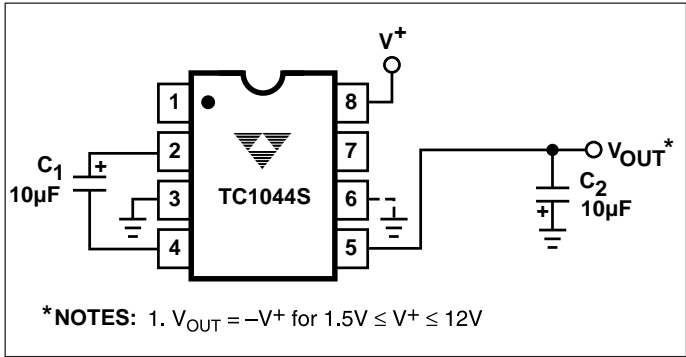
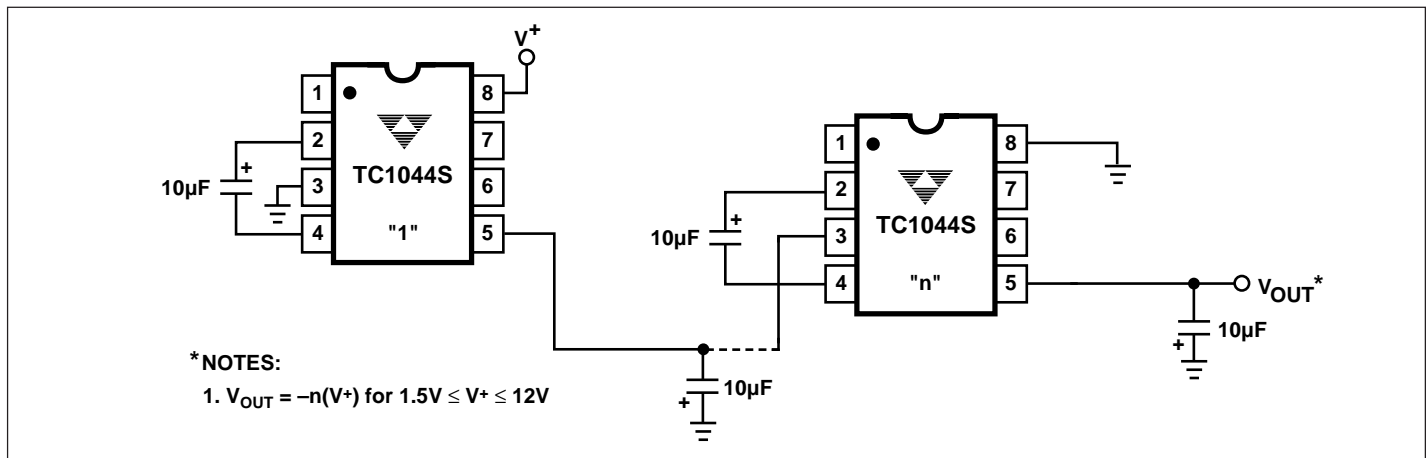
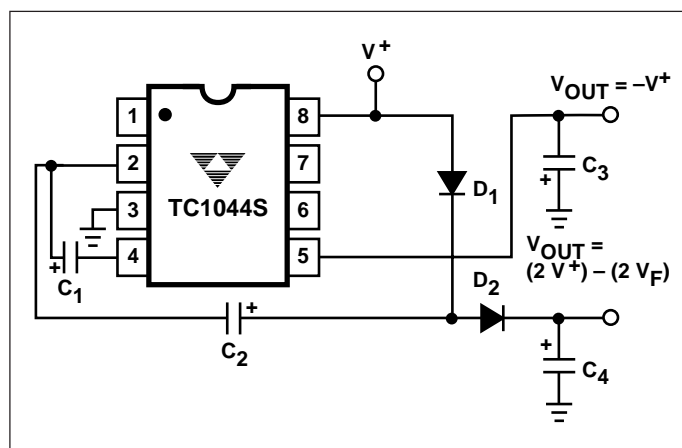
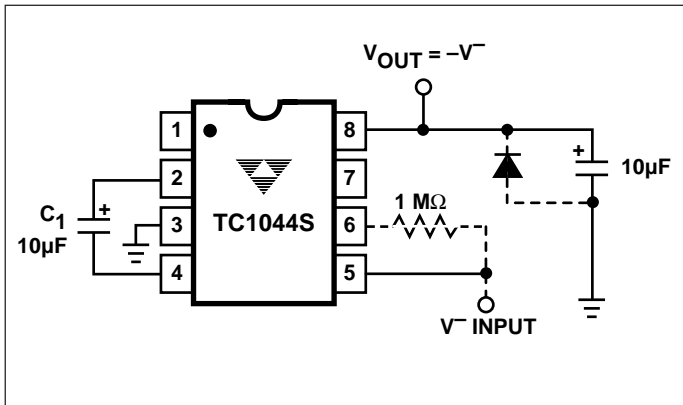

Figure 3. Simple Negative Converter
Figure 5. Increased Output Voltage by Cascading Devices
Figure 9. Combined Negative Converter and Positive Multiplier
Figure 10. Positive Voltage Conversion
Figure 3 shows typical connections to provide a negative supply where a positive supply is available. A similar scheme may be employed for supply voltages anywhere in the operating range of +1.5V to +12V, keeping in mind that pin 6 (LV) is tied to the supply negative (GND) only for supply voltages below 3.5V.
The output characteristics of the circuit in Figure 3 are those of a nearly ideal voltage source in series with 70Ω. Thus, for a load current of -10mA and a supply voltage of +5V, the output voltage would be -4.3V.
The TC1044S may be cascaded as shown (Figure 5) to produce larger negative multiplication of the initial supply voltage. However, due to the finite efficiency of each device, the practical limit is 10 devices for light loads. The output voltage is defined by:
Figure 9 combines the functions shown in Figures 3 and 8 to provide negative voltage conversion and positive voltage multiplication simultaneously. This approach would be, for example, suitable for generating +9V and -5V from an existing +5V supply. In this instance, capacitors C_1 and C_3 perform the pump and reservoir functions, respectively, for the generation of the negative voltage, while capacitors C_2 and C_4 are pump and reservoir, respectively, for the multiplied positive voltage. There is a penalty in this configuration which combines both functions, however, in that the source impedances of the generated supplies will be somewhat higher due to the finite impedance of the common charge pump driver at pin 2 of the device.
Since the switches that allow the charge pumping operation are bidirectional, the charge transfer can be performed backwards as easily as forwards. Figure 10 shows a TC1044S transforming -5V to +5V (or +5V to +10V, etc.). The only problem here is that the internal clock and switch-drive section will not operate until some positive voltage has been generated. An initial inefficient pump, as shown in
Figure 9, could be used to start this circuit up, after which it will bypass the other (D_1 and D_2 in Figure 9 would never turn on), or else the diode and resistor shown dotted in Figure 10 can be used to "force" the internal regulator on.
The same bidirectional characteristics used in Figure 10 can also be used to split a higher supply in half, as shown in Figure 11. The combined load will be evenly shared between the two sides. Once again, a high value resistor to the LV pin ensures start-up. Because the switches share the load in parallel, the output impedance is much lower than in the standard circuits, and higher currents can be drawn from the device. By using this circuit, and then the circuit of Figure 5, +15V can be converted (via +7.5V and -7.5V) to a nominal -15V, though with rather high series resistance (~250Ω).